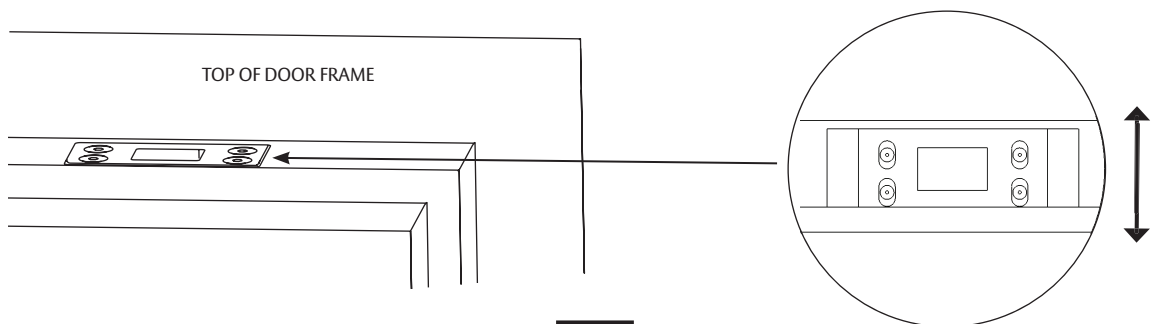

Figure 6
- Move the top strike back and forth until the top latch engages the strike. (Figure 6)